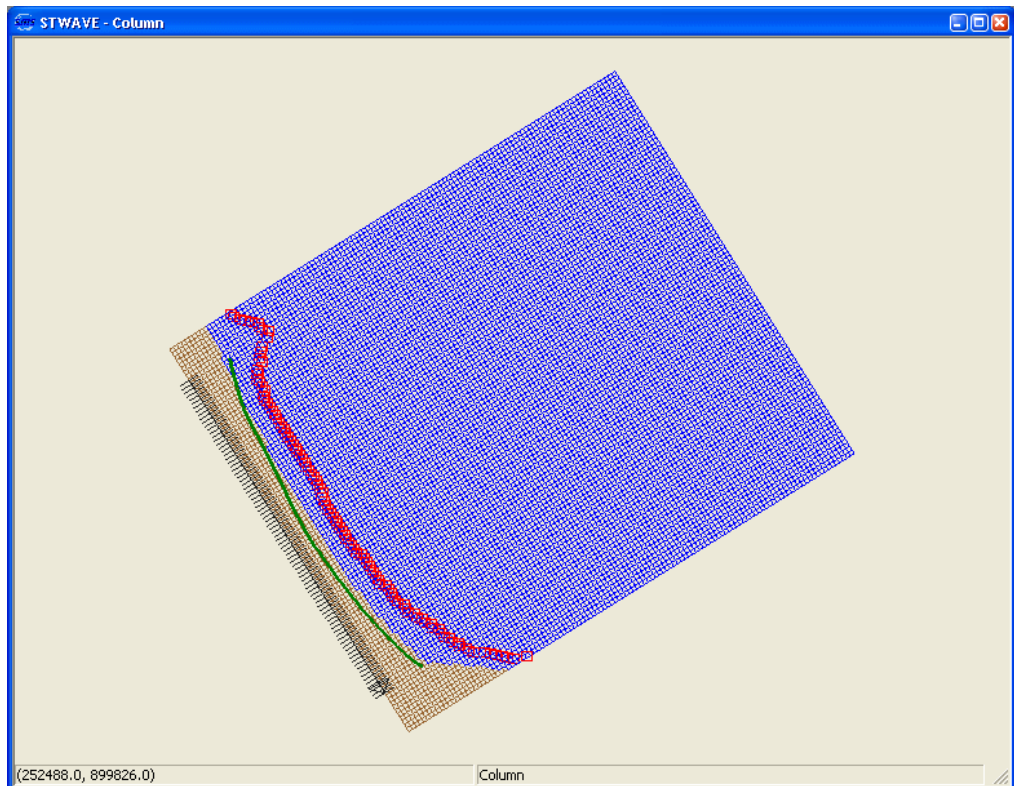

Figure 24-11. The STWAVE grid with observation stations assigned.
5. Click the *OK* button to close the *Display Options* dialog. The display should look like Figure 24-11.